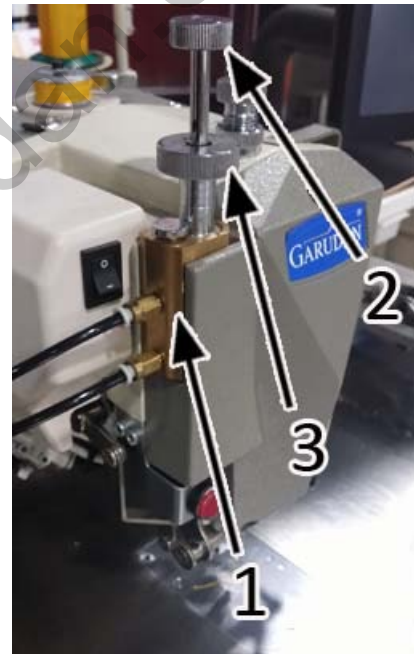

Fig. 28
The height of programmable presser foot is set by screw (3), Fig. 28.